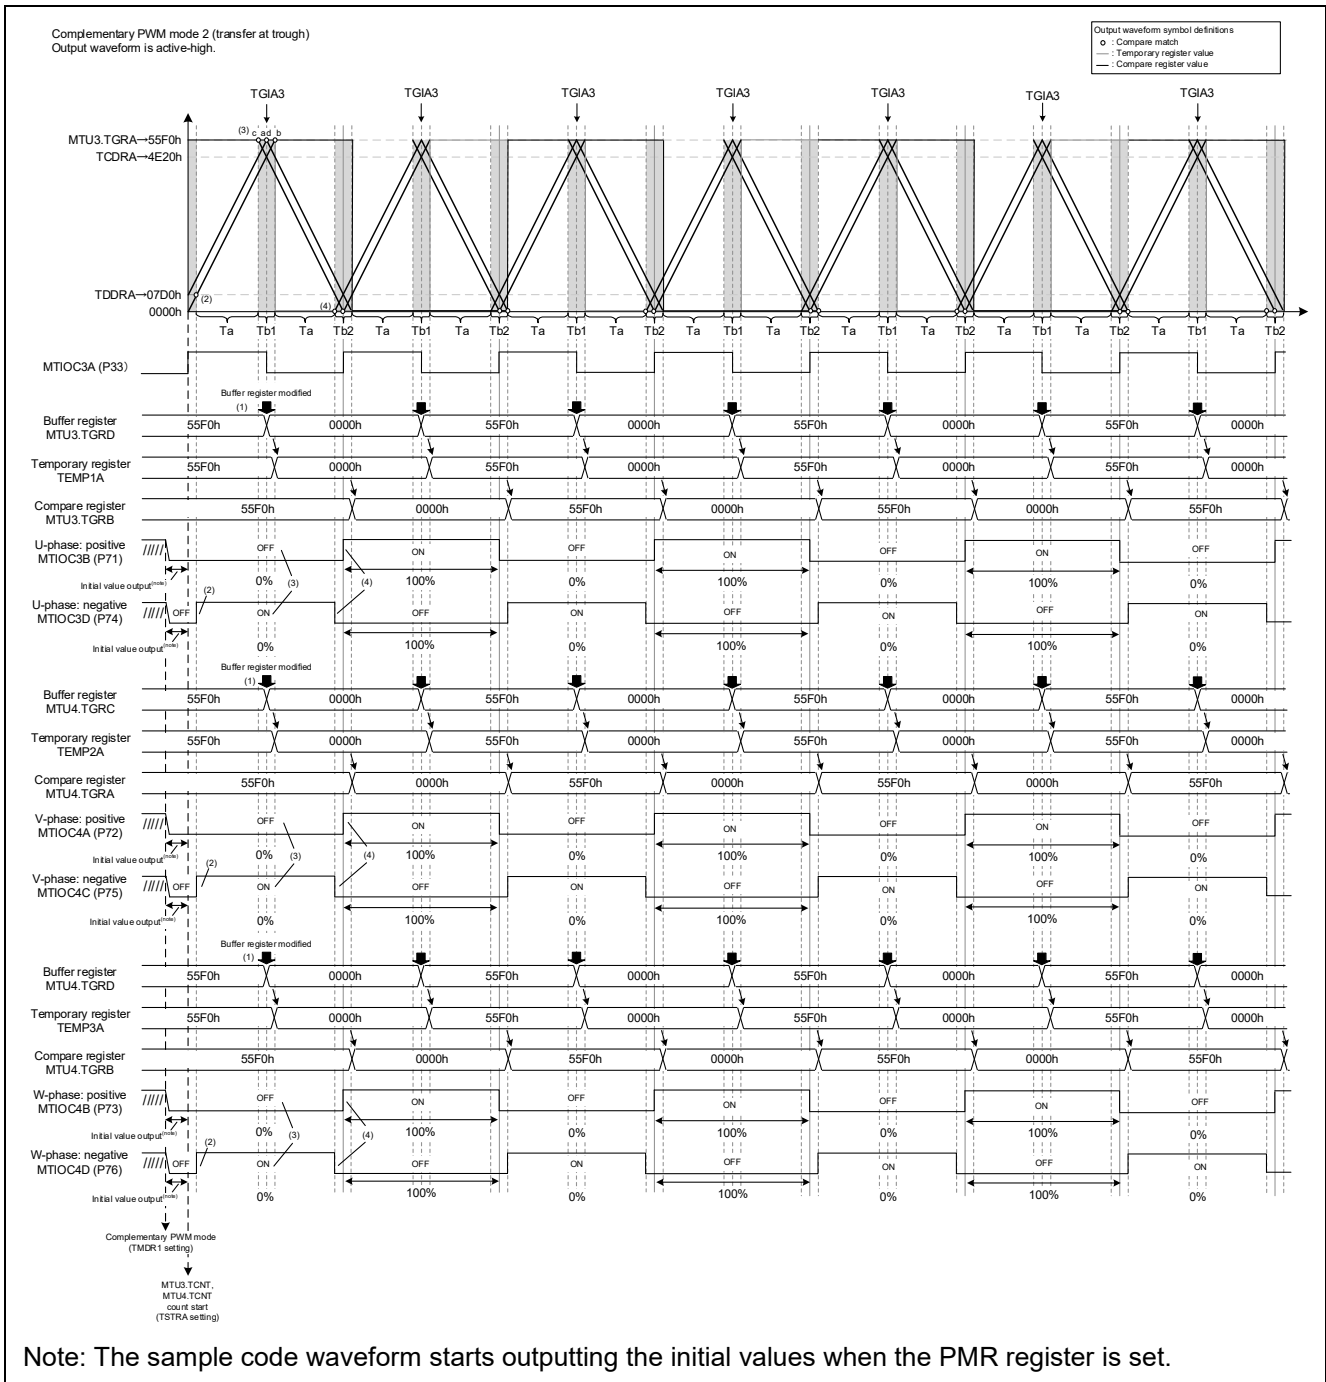

Figure 3.107 Sample Code Operations
- Refer to Figure 3.107 for buffer register initial values
- Refer to Figure 3.107 for details on timing for duty cycle changes
The sample code operations are shown in Figure 3.107. The duty cycle is switched between 0% and 100% with each period by modifying the values of the buffer registers (MTU3.TGRD, MTU4.TGRC, and MTU4.TGRD) at the compare match interrupt (TGIA3) of register MTU3.TGRA, which is set in the upper limit value of MTU3.TCNT ((1) in Figure 3.107).
Initial output is OFF for both positive-phase output and negative-phase output, according to the settings of TOCR2A bits OLS1P, OLS1N, OLS2P, OLS2N, OLS3P, and OLS3N. After setting complementary PWM mode with MTU3.TMDR1, output is continued until MTU4.TCNT is greater than the value of the TDDRA register ((2) in Figure 3.107).
The following compare matches (a, b, c and d) occur, but the waveforms do not change. The positive-phase wave retains low output and the negative-phase wave retains high output ((3) in Figure 3.107).
The compare and temporary registers are enabled in the Tb2 interval. When a compare match occurs between the temporary and counter registers, the positive-phase goes high and the negative-phase goes low ((4) in Figure 3.107).